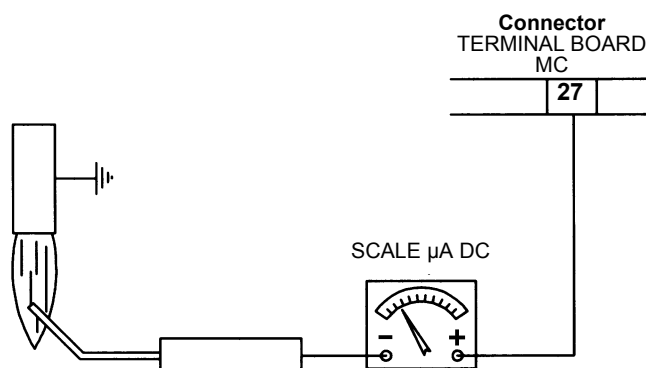
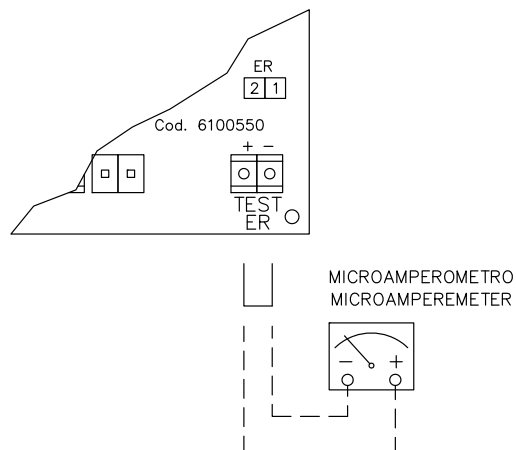

Fig. 44
Fig. 45
- Check the detection electrode, clean, adjust and, if necessary, replace; in case of doubt, check the detection circuit following the diagram in Fig. 44 and Fig. 45, after turning the burner back into operation.
To measure the detection signals refer to the diagrams in Fig. 44 and Fig. 45. If the signal is less than the indicated value, check the position of the detection electrode, the electrical contacts and if necessary replace the detection electrode.
To check the detection current, remove the jumper between terminals and connect the microammeter (see Fig. 45).